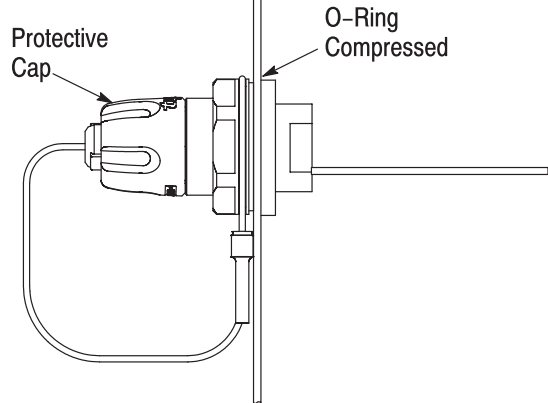

Figure 12
2. Install the connector through the back of the panel so that the O-ring on the shoulder of the D-hole housing is flat against the panel. See Figure 12, Detail A.
3. Thread the panel nut onto the D-hole housing. See Figure 12, Detail A. Tighten the panel nut to a torque of approximately 40 N-m. When the panel nut is secure, the O-ring should be compressed.
4. Thread the protective cap onto the housing, then hand-tighten the protective cap as shown in Figure 12, Detail B.